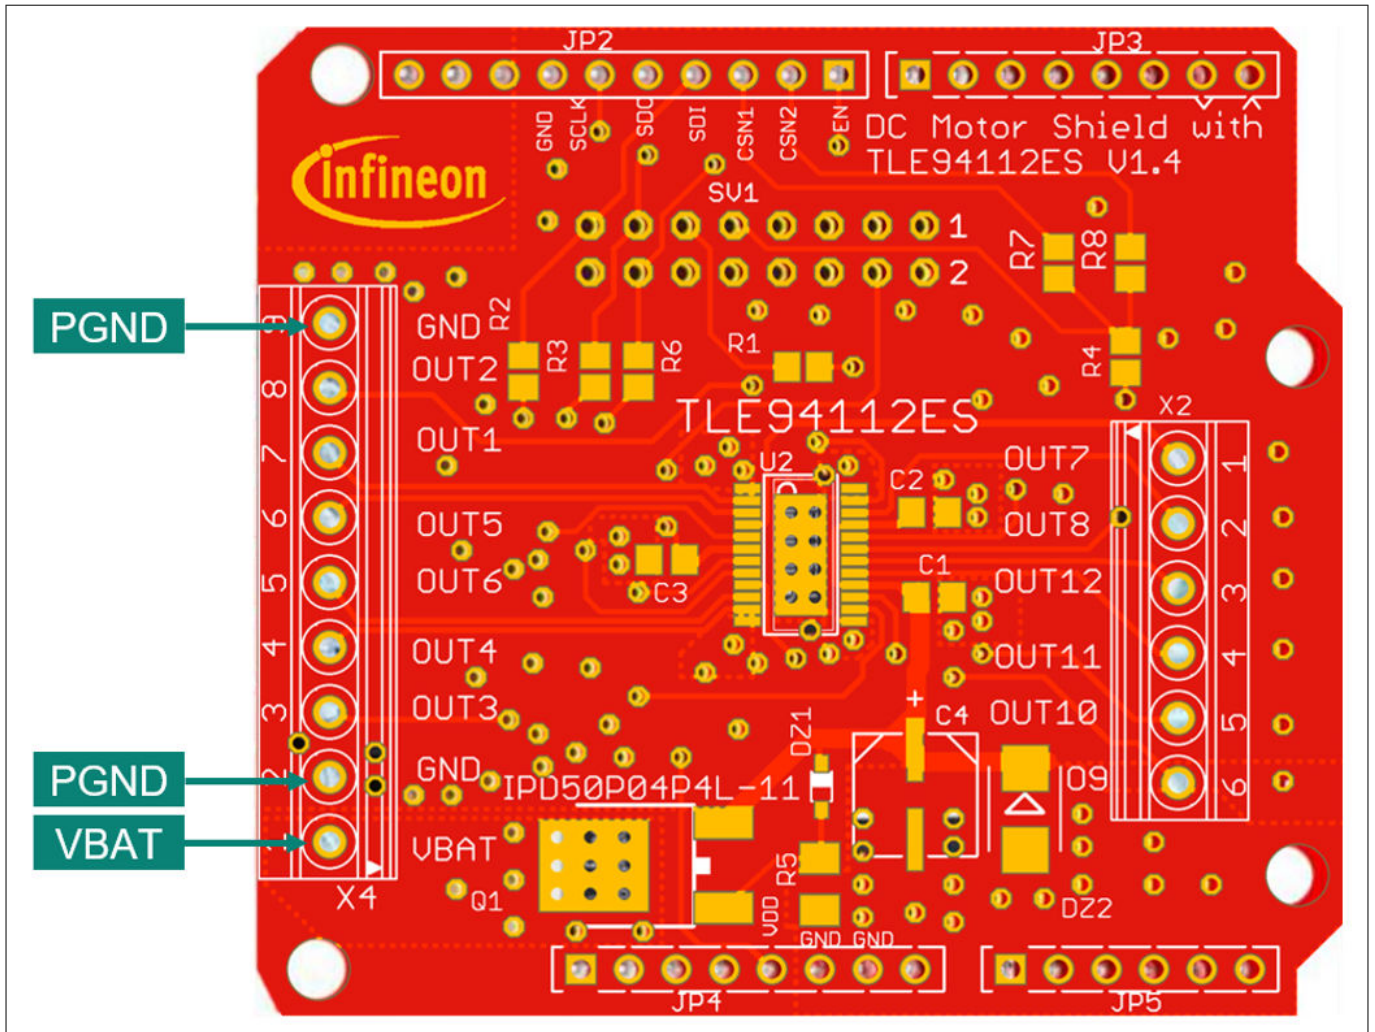

Figure 16 Supply connection
- Connect the USB cable to (for example) the Arduino UNO R3 (Figure 16) or the micro USB to the XMC™ 1100 Boot Kit
- Connect the DC adapter to the Power Shield (VBAT and GND, see Figure 16)